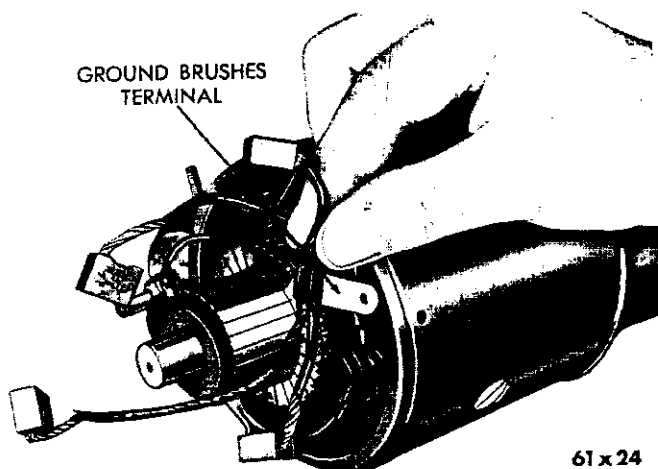

Fig. 12—Removing the Ground Brushes Terminal
(11) Slide the over-running clutch drive from the armature shaft.
(12) If it is necessary to replace the field coils, remove the ground brushes terminal attaching screw and raise the brushes with the terminal and shunt wire up and away from the field frame (Fig. 12). Remove the pole shoe screws with a special pole shoe impact screwdriver, Tool C-3475.
(4) Remove the screw attaching the ground brush terminal to the field frame and raise the brushes and terminal up and away from the field frame (Fig. 12). **NOTE: The leads are not equal in length. Check the brush leads before cutting, to insure the proper length at installation.**
(5) Clip the brush leads at the ground terminal and at the field coils.
(6) Open the brush lead retaining clips to remove the old brush leads.
(7) When resoldering the brush leads, make a strong, low resistance connection using a high temperature solder and resin flux. Do not use acid. Do not break the shunt wire when removing and installing the ground brushes.
(8) The brush springs can be removed by spreading the retainers and disengaging the springs from the retainer legs.
(9) Measure the brush spring tension with a spring scale hooked under the spring near the end. Pull the scale on a line parallel to the edge of the
(4) Remove the ground brushes attaching screw and raise the brushes with the terminal and shunt wire up and away from the field frame (Fig. 12).
(8) Install the ground brushes (Fig. 12).